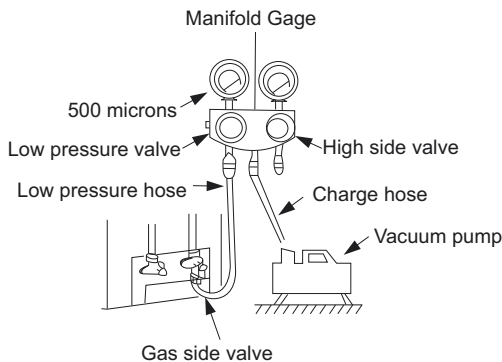

Fig. 12 – Manifold
3. Fully open the low pressure valve of manifold gauge (see Fig. 12).